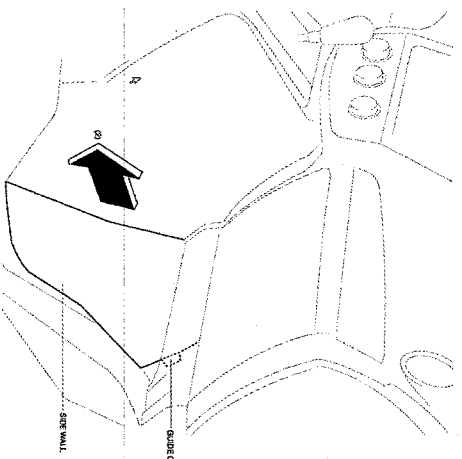

FIGURE 7
- 2.) PULL THE SIDE WALL IN THE DIRECTION OF THE ARROW (2) THEN REMOVE IT DETACHING THE GUIDE C. (SEE FIGURE 7)